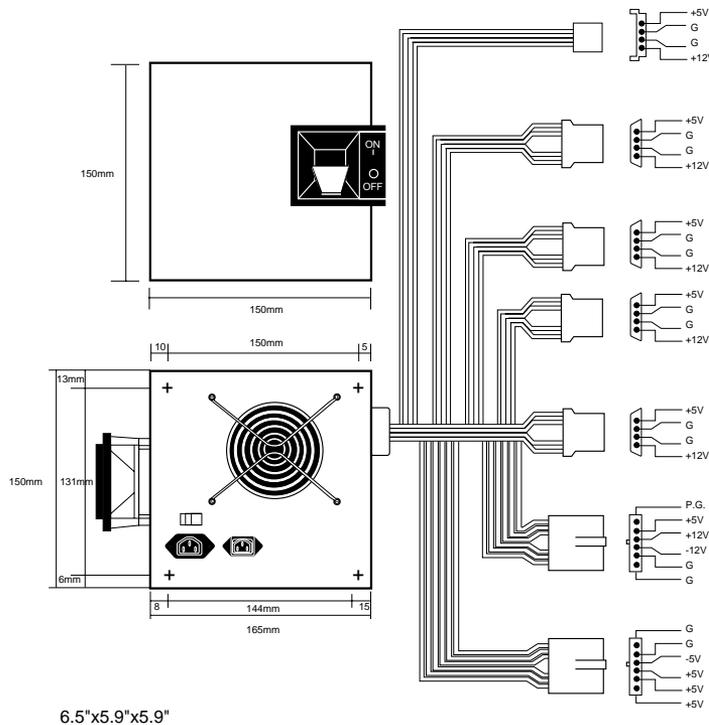

FIG. 8.4 Baby-AT form factor power supply.
**Baby-AT Style.** Another type of AT-based form factor that has been developed is the so called *Baby-AT*, which is simply a shortened version of the full-sized AT system. The power supply in these systems is shortened on one dimension; however, it matches the AT design in all other respects. These Baby-AT style power supplies can be used in both Baby-AT chassis and the larger AT-style chassis; however, the full size AT/Tower power supply does not fit in the Baby-AT chassis (see Figure 8.4).